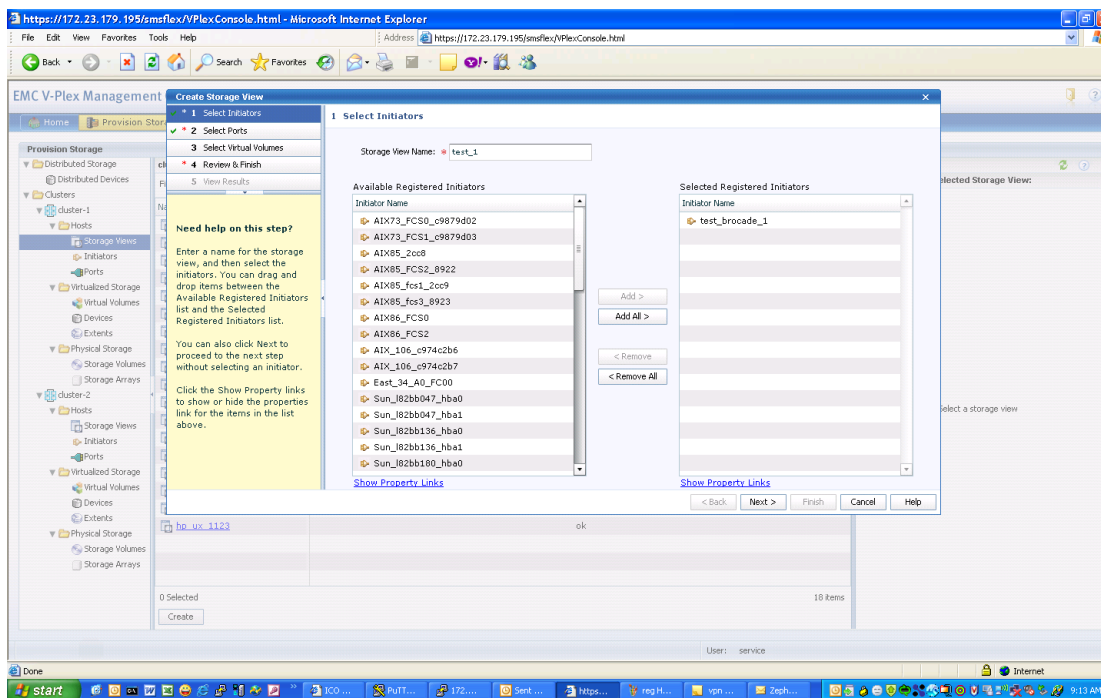

Figure 19 Create storage view
1. Creating a storage view, as shown in Figure 19.